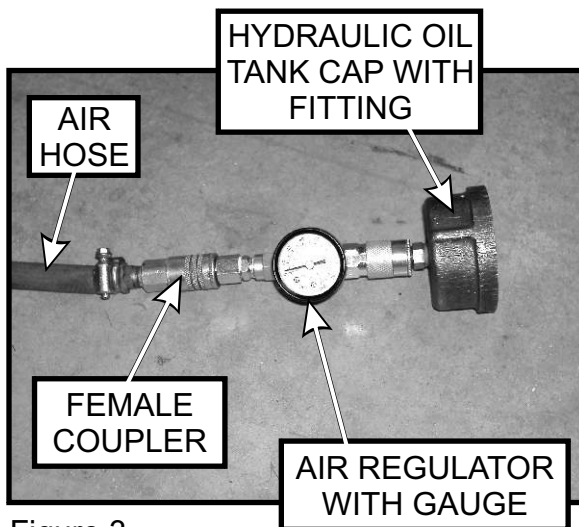

Figure 3
3. Attach the air regulator to the hydraulic oil tank cap with fitting and to the air hose. See Figure 3. Make sure the air regulator is in the off position. Figure 4